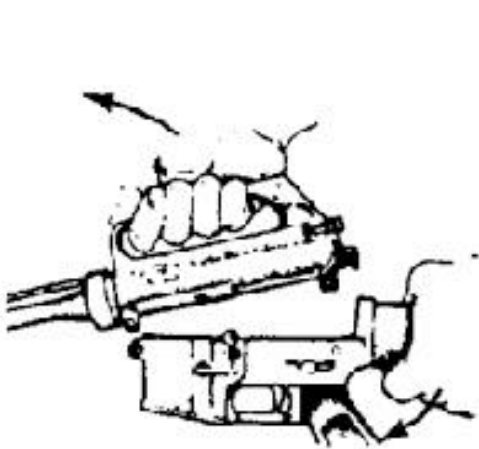

Figure E-8. Separating the upper and lower receivers.
- f. Separate the upper and lower receivers (figure E-8).